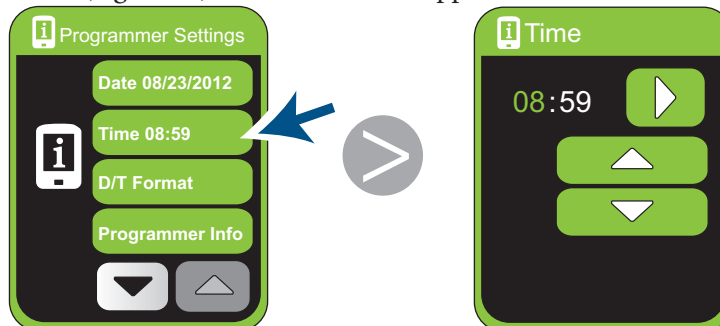

Figure 73. Displaying the Time screen
2. Tap  (Figure 73). The Time screen appears.